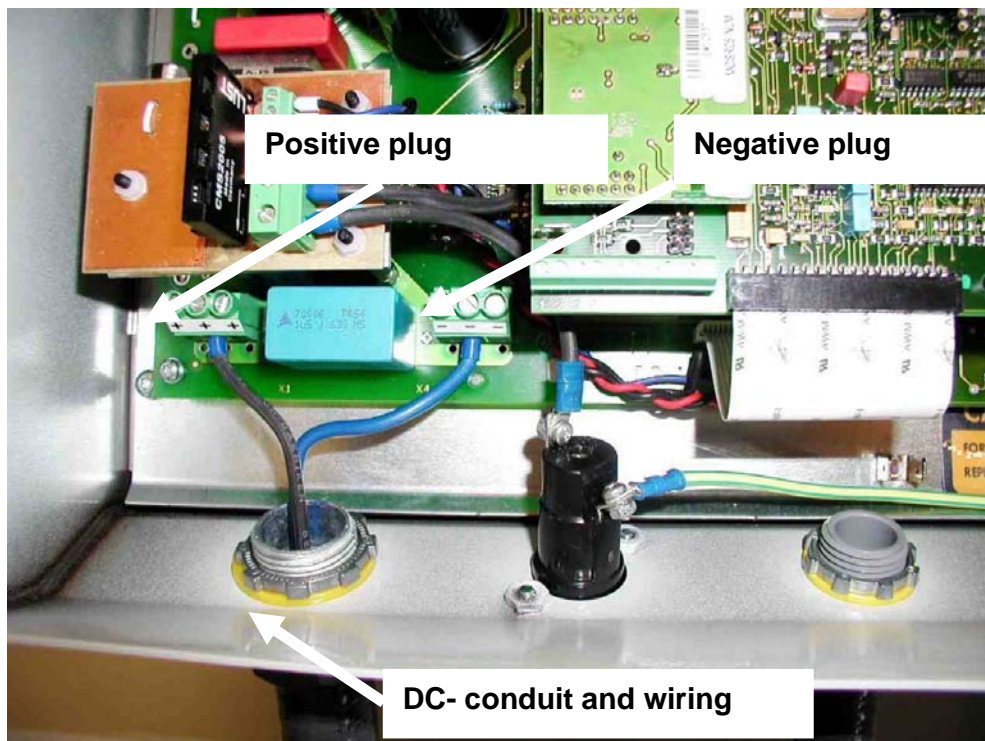

Fig. 2.9: DC Connection Terminal
- Connect the positive (+) wire to the terminal block labeled with (+), see Fig. 2.9.
- Connect the negative(-) wire to the terminal block labeled with (-), see Fig. 2.9.